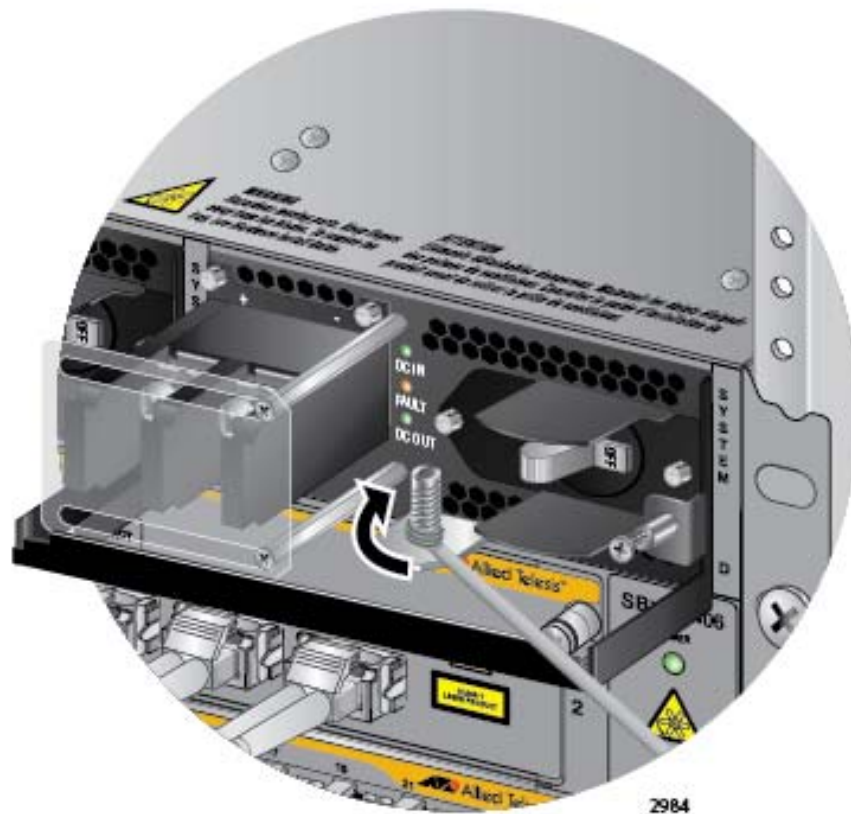

Figure 128. Attaching the Bare Grounding Wire to the Grounding Post
3. Wrap the grounding wire clockwise around the base of the grounding post, as shown in Figure 128.